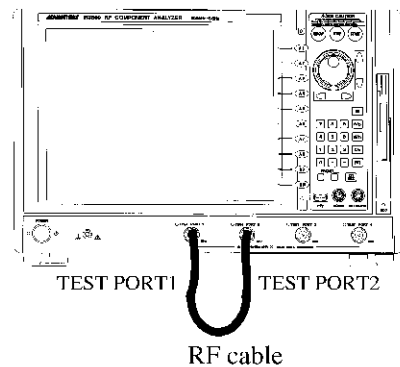

Figure 12-9 Connections for Attenuation Accuracy Measurements
1. Connect the RF cable and conversion connector (for OPT 12 or 13, only the RF cable is used) from TEST PORT 1 to TEST PORT 2 as shown in Figure 12-9.